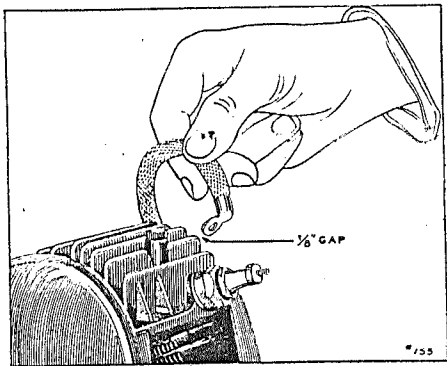

Fig. 3.
25. To be sure that you have a spark at the spark plug, you can remove the wire from the plug and hold it within $\frac{1}{8}$ " of any metal part of the motor (See Fig. 3). Keep the hand back on the insulated part of the wire so that you will not get a shock. Then crank the motor and see if a spark will jump this $\frac{1}{8}$ " gap. If it does, you will know that the spark is amply strong to jump the small gap at the spark plug when in the motor under compression. This test is